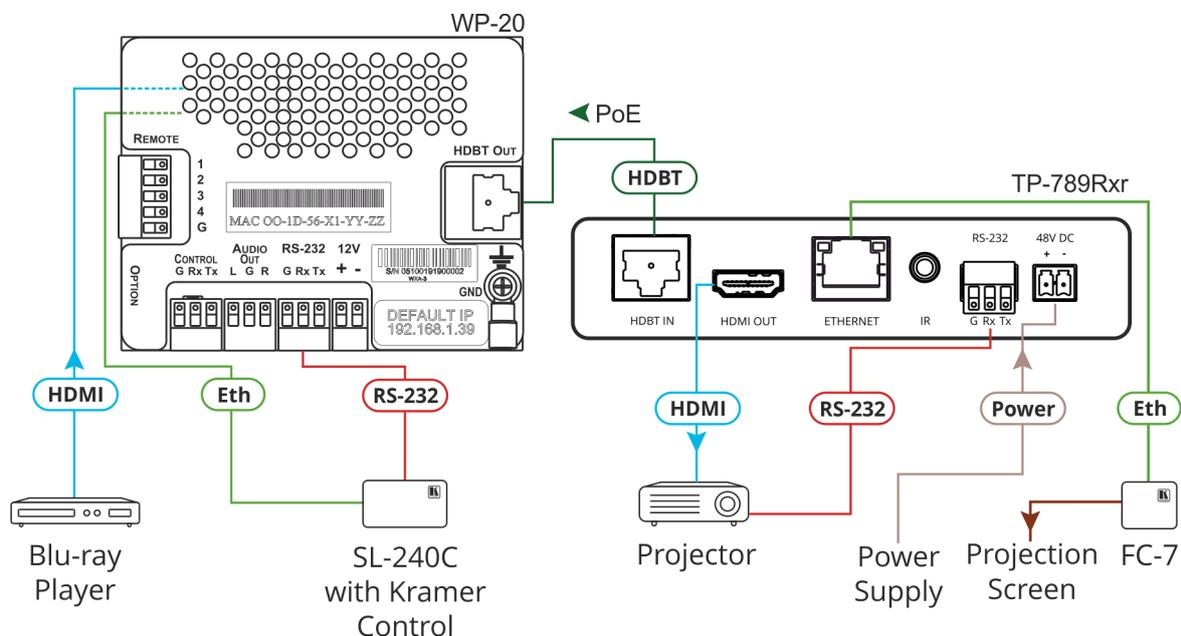

Figure 5: Connecting TP-789Rxr to WP-20
To connect TP-789R/TP-789Rxr as illustrated in the example in Figure 5:
2. Connect the HDMI OUT Connector (8) on the **TP-789R/TP-789Rxr** rear panel to the HDMI acceptor (for example, a projector).
3. Connect the RS-232 Terminal Block Connector (11) on the **TP-789R/TP-789Rxr** rear panel to the HDMI acceptor.
5. Connect the HDBT OUT RJ-45 Connector on the **WP-20** rear panel to the HDBT IN RJ-45 Connector (7) on the **TP-789R/TP-789Rxr** rear panel.
6. Connect a LAN-enabled device (for example, **FC-7** connected to a projection screen) to the Ethernet RJ-45 Connector (9) on the **TP-789Rxr** rear panel.
7. Connect the power adapter to the 48V DC Power Terminal Block (12) on **TP-789R/TP-789Rxr** rear panel and to the mains electricity (not shown in Figure 5).